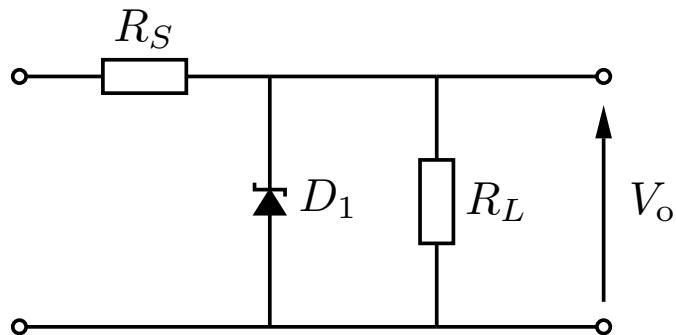

Figure 2: Question 2.
The linear power supply in Question 1 is being used to power a vintage spring reverb unit which unfortunately is susceptible to induced “hum” due to ripple on its power supply lines. The power supply can be improved by adding a Zener diode shunt regulator. In Fig. 2, the reverb circuit is represented by a resistance, R_L . The reverb circuit requires 15 V and will draw 15 mA under normal circumstances. The Zener diode requires 3.73 mA to operate properly.
- Draw a circuit diagram of the regulator similar to Fig. 2 showing the information given in the question and including any information you think is needed from Question 1.